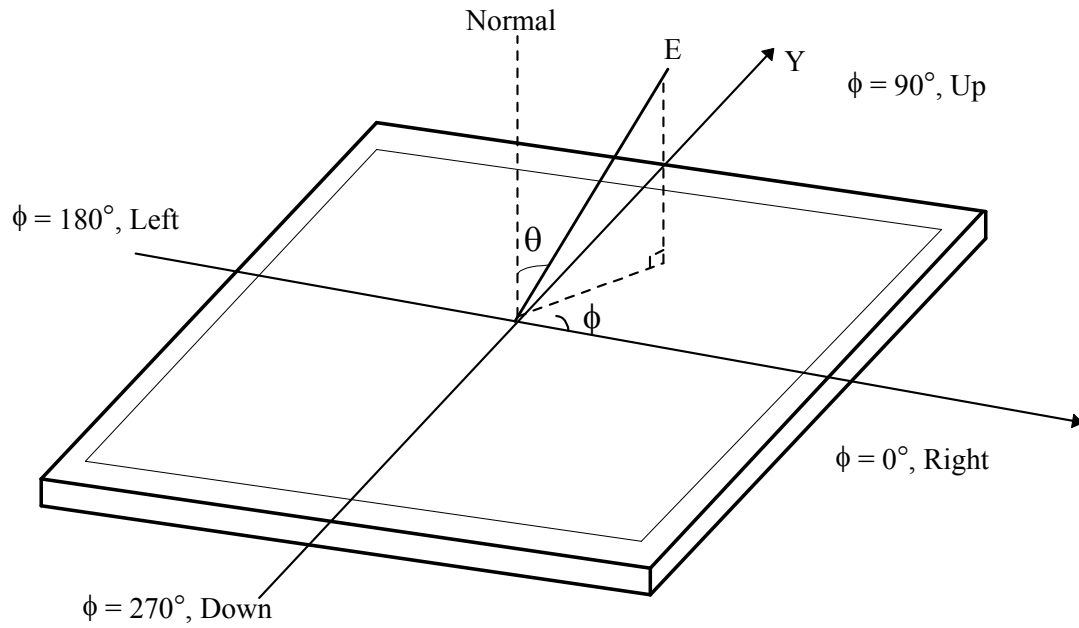

FIG. 4 Viewing angle
5. Viewing angle is the angle at which the contrast ratio is greater than 10. The angles are determined for the horizontal or x axis and the vertical or y axis with respect to the z axis which is normal to the LCD surface. For more information see FIG 4.